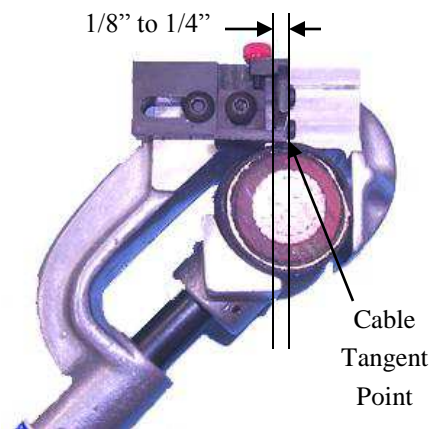

Figure 2
1. Place the tool over the end of the cable as in Figure 2 and close the jaws around the cable by rotating the adjustment knob on the end of the tool.
2. Keep the blade assembly above the end of the cable and position the Blade Adjustment Block so the blade is 1/8" to 1/4" back from the center line of the cable as indicated in Figure 2.